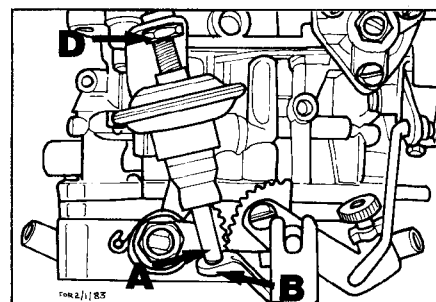

Fig. 3 Throttle damper adjustment
- Slacken locknut (D, Fig. 3).
- Turn damper downwards until there is a clearance of 0,05 mm between damper plunger (A) and throttle lever (B).
- Retighten locknut (D).